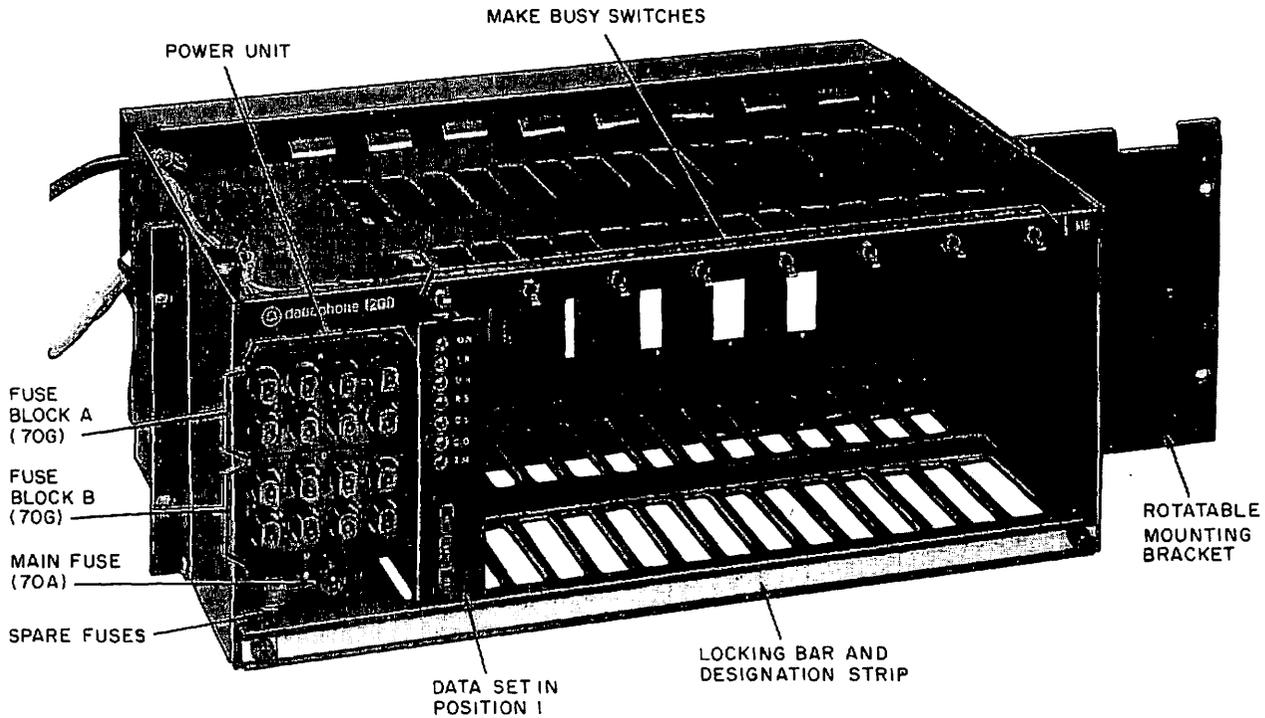

Fig. 1—40A1 Data Mounting (Shown for 23-Inch Mounting)
**2.03** The 40A1 data mounting (Fig. 1) accommodates up to eight data sets 103J-L1, 113C-L1, 113D-L1, 202S-L1, 202S-L1A, and/or data auxiliary set 801C-L1 (automatic calling unit). Every second slot is wired with low voltage alternating current, customer and telephone line connections, and a make-busy switch and remote test relay required for use behind line hunting equipment.